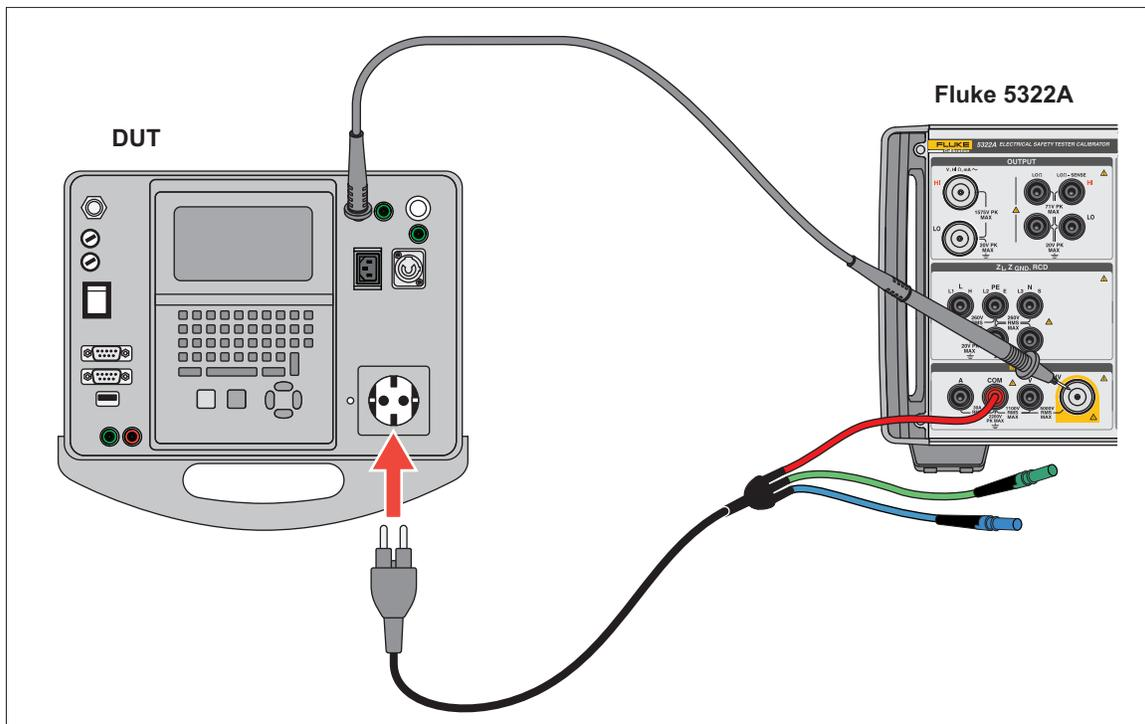

Figure 58. Class II Flash Test Voltage Measurement using the Flash LC Mode
3. Connect the Product and DUT as in Figure 58.